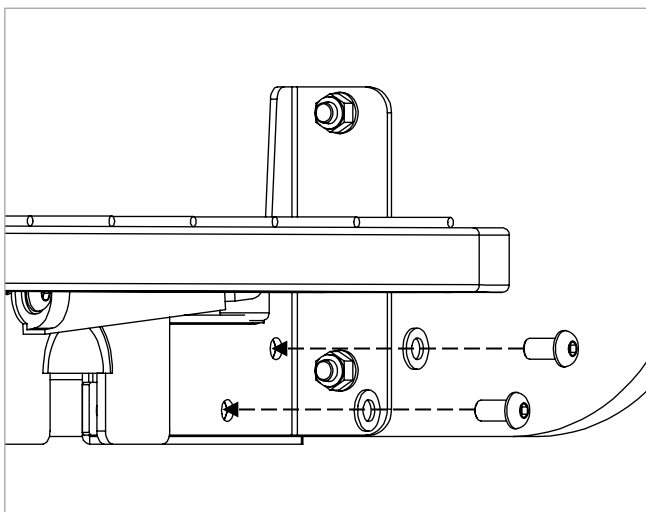

Figure 8.8
15. Align the bolt holes and secure the mounting brackets using the M8 x 20mm bolts and washers provided as shown in Figure 8.8. Tighten using the 5mm Allen key.